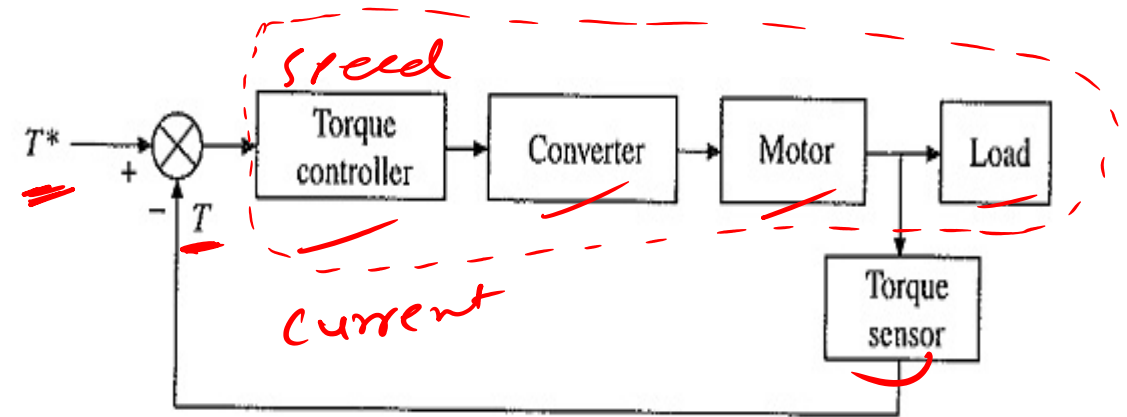

Fig. 2. Closed loop torque control of drives.
- Closed Loop Torque Control of Drives scheme of Fig. 2 finds application in battery-operated vehicles, rail cars and electric trains.
Current and speed controllers shown in Figs. 2 and 3 may consist of proportional and integral (PI), proportional and derivative (PD) or proportional, integral and derivative (PID) controller, depending on steady-state accuracy and transient response requirements.